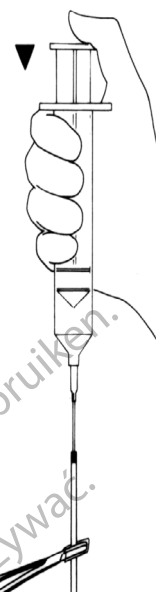

Figure 4-4b. Insert Needle Into Tube
6. Fill the cuff with 1 cc to 5 cc of recommended filling solution, depending on cuff size. (Figure 4-4b)